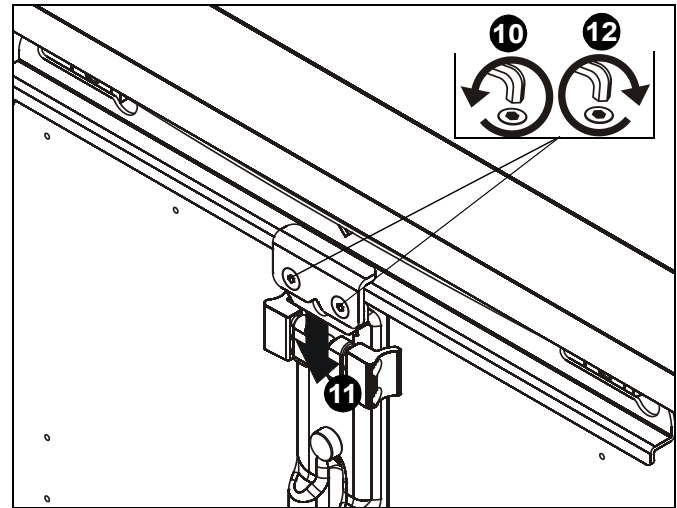

Figure 13
- Loosen flat head cap screws on upper carriage rail in order to loosen white spacer. (See Figure 13)
- Remove white spacer from mount. (See Figure 13)
- Tighten flat head cap screws. (See Figure 13)